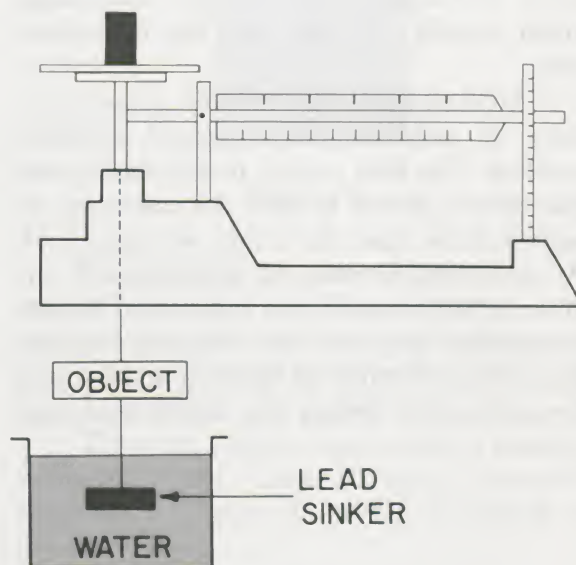

Figure 20.
2. Suspend a heavy metal sinker from the object, as shown in Figure 20.
3. Submerge the sinker, as in Figure 20, and measure and record the apparent mass of the object in air plus the sinker in the water ($M_A + M_{\text{SW}}$).